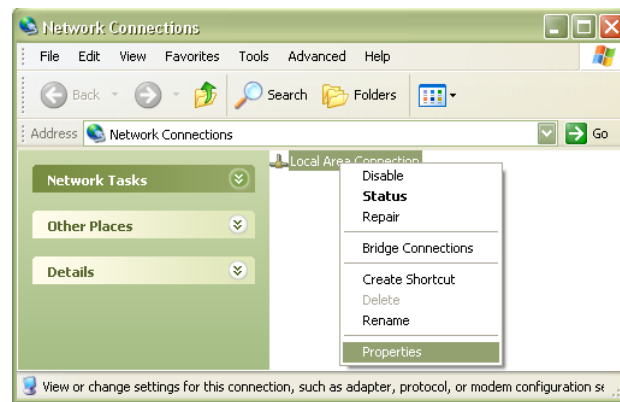

FIGURE 8-1: NETWORK CONNECTION PROPERTIES
- 3) Right click on the connection that will be used to communicate with the EX2500A, then select **Properties** (see Figure 8-1). Some PCs have multiple network connections, so it is important to make certain that the connection used to communicate with the EX2500A is selected.